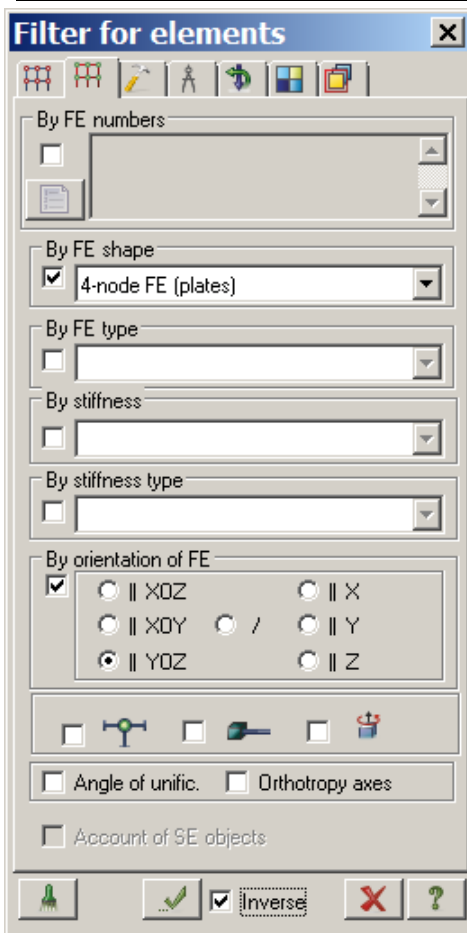

Figure 4.16 Filter for elements dialog box
- ⇒ On the **Filter for elements** tab (see Fig.4.16), select **By FE shape** check box and select **4-node FE (plates)** option in the list.